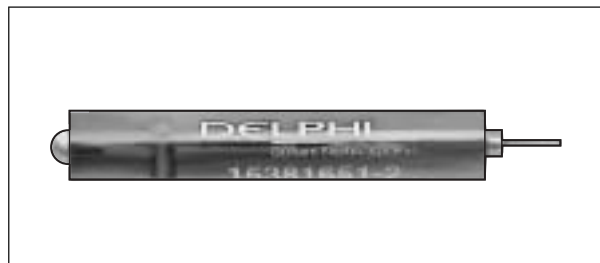

Figure B-26. Packard Micro 64 Terminal Remover (Part No. HD-45928).
4. Obtain the Packard Micro 64 Terminal Remover (HD-45928). See Figure B-26. Proceed as follows: